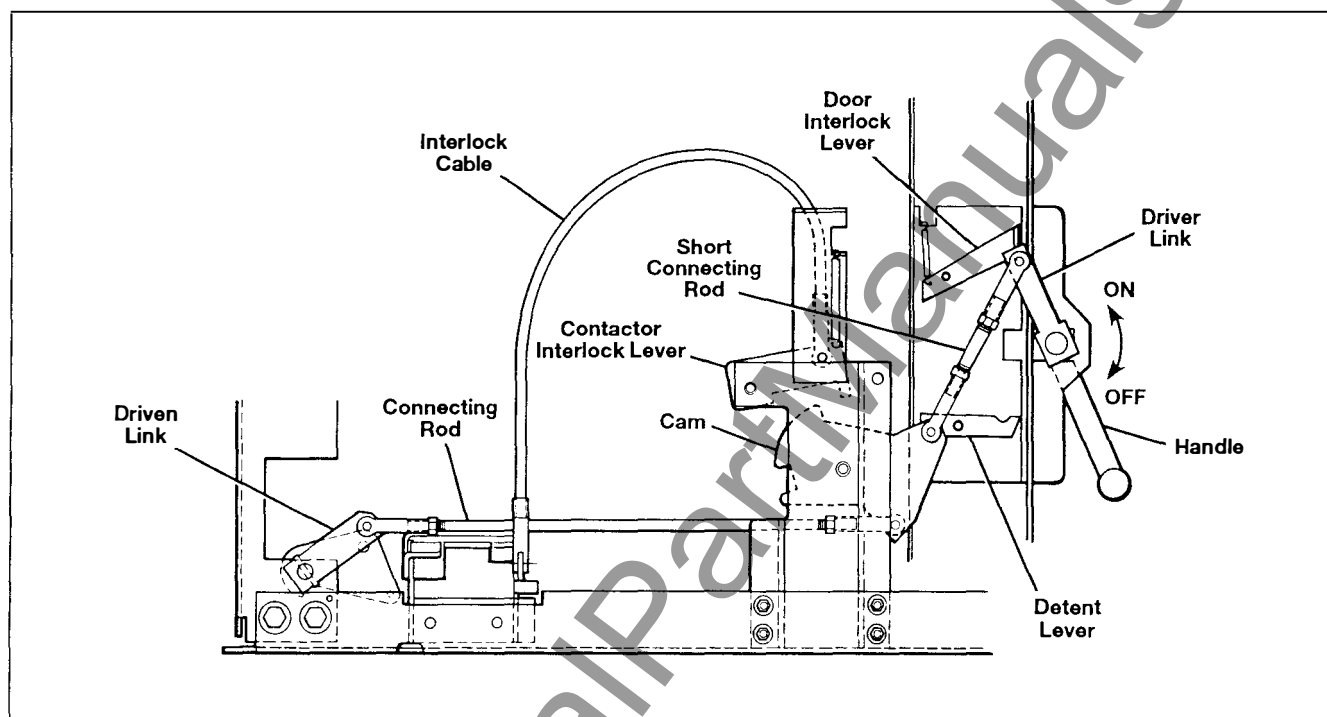

Figure 41. Racking Mechanism Adjustment—"OFF" Position
2. Loosen the lock nuts on each end of the long connecting rod and adjust the length of the rod by rotating it until the dimension shown in **Figure 41** is obtained. Retighten the lock nuts.